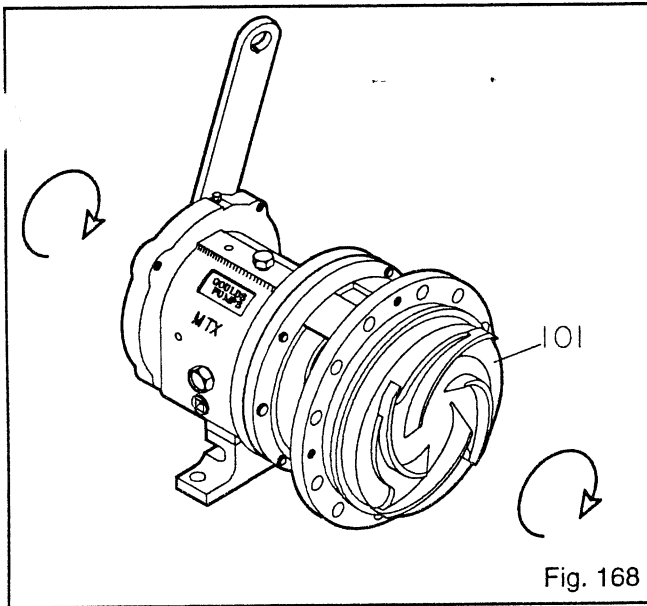

Fig. 168
4. Install impeller (101) with O-ring (412A). Put shaft wrench and coupling key on shaft. When impeller (101) makes firm contact with sleeve (126), raise shaft wrench (counterclockwise when viewed from impeller end of shaft) off bench and slam it down (clockwise when viewed from impeller end of shaft). A few sharp raps will tighten impeller properly (Fig. 168).